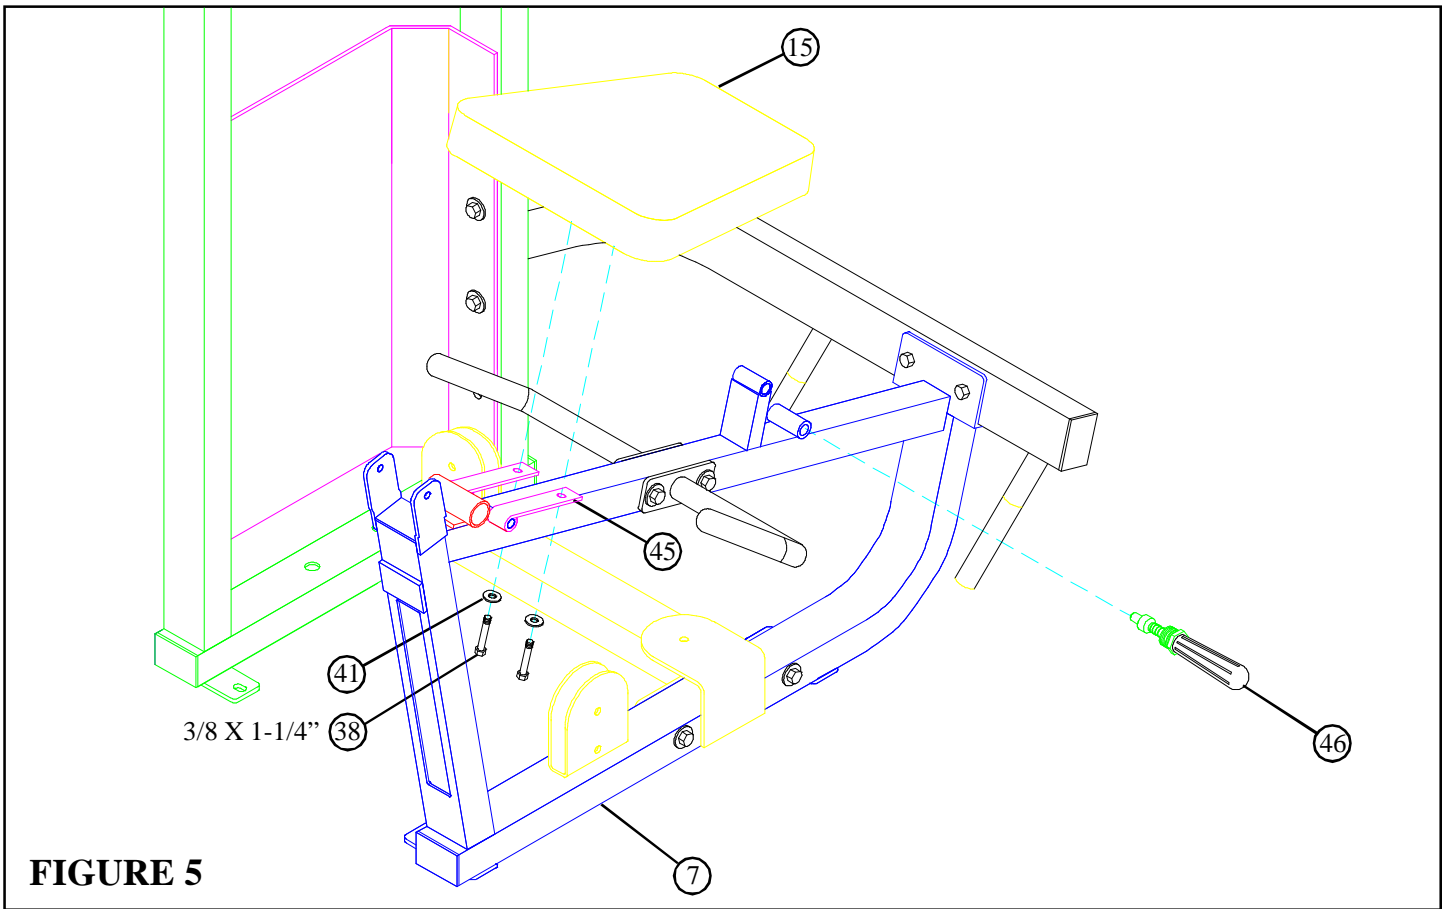

FIGURE 5
- **SECURELY** assemble SEAT PAD (15) to HINGE TABS (45) using two 3/8 X 1-1/4" BOLTS (38) and two 3/8" WASHERS (41). See FIGURE 5.
- **SECURELY** assemble one 1/2 X 7-7/8" SPRING PIN (46) to the BENCH FRAME (7) as shown in FIGURE 5. (**NOTE: IMPORTANT! Tighten SPRING PIN completely.**)